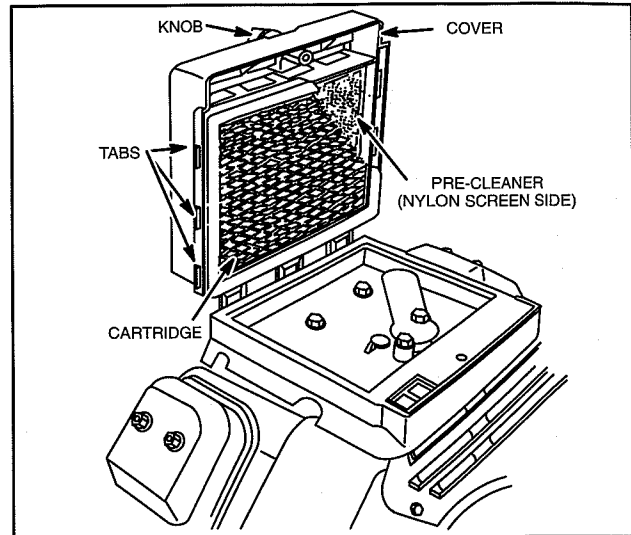

Fig. 7 – Square Dual Element Air Cleaner
1. Remove cover assembly, Fig. 7.
- f. Install paper cartridge in cover with tabs on cartridge in slots of cover, Fig. 7.
- b. Reinstall paper cartridge in cover with tabs on cartridge in slots on cover, Fig. 7.